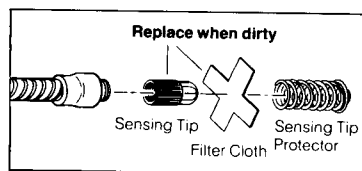

Fig. 1
**Always change filter cloth** when new tip has been installed (see Fig. 1).